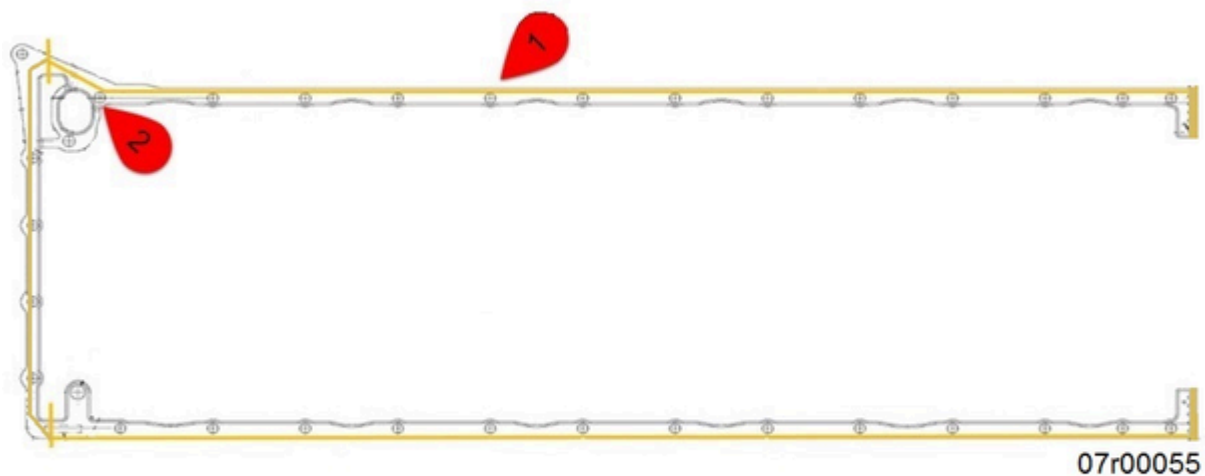

Figure 8
- Apply a 3mm [1/8 in] thick bead of sealant on **both** sides of the lubricating oil pan adapter gasket along the outside of the bolt holes (Yellow Line in Figure 8).
RTV must be kept out of and away from the lubricating oil suction tube hole in the cylinder block or engine damage will result. (Figure 8, Callout 2).
Addition of Loctite™ 5999 RTV along outside of capscrew holes (see Figure 8 above) on both sides of lubricating oil pan adapter gasket was implemented in production for QSK19 engines **only**. See Table 2 below.